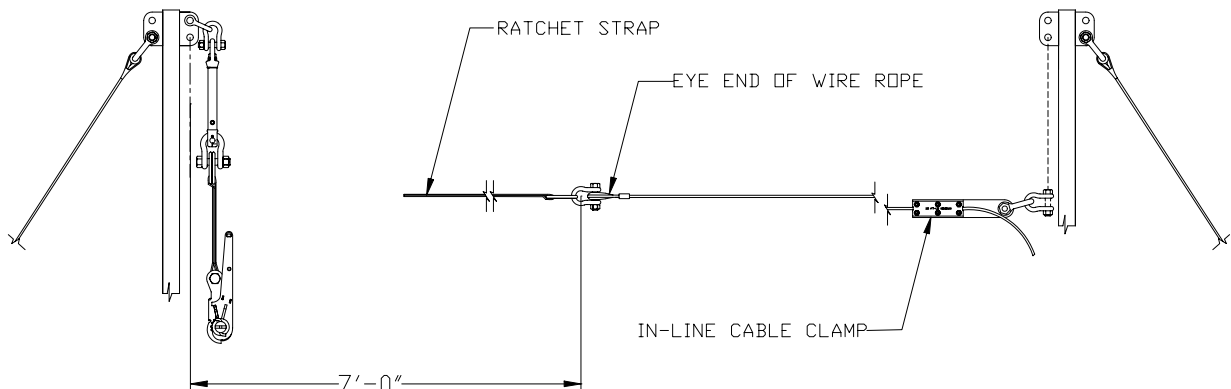

Figure 5
10. Layout the horizontal lifeline cable on a flat surface near where the lifeline will be installed (directly below the I-beam where the stanchions will be installed) and remove all bends. Inspect cable for crush spots, broken wires, weld strikes, or any other deformity that may affect the integrity of the cable. Damaged cables must be removed from service immediately from service. Position the eye end of the wire rope so that it is about 7-ft. (see Figure 5) away from the location of one of the end stanchions.